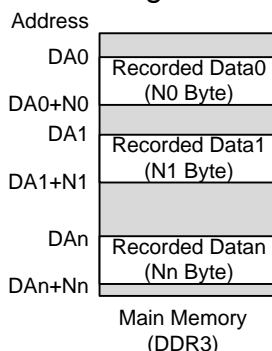

Figure 3-6 Prepare Data for Write DMA Ext command
- 1) Prepare the write data to free area in the main memory. Assumed that the write data is spitted to (n+1) segments, as shown in Figure 3-6.